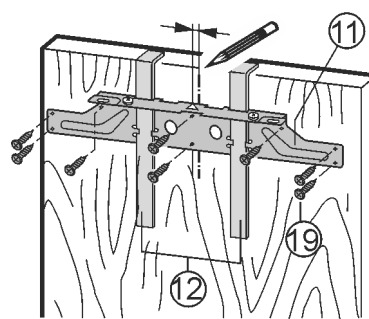

Fig. 19
- ▶ Align the crosspiece Fig. 19 (11) to the middle of the door.
- ▶ Left strip: Move the crosspiece Fig. 19 (11) 1/4 (6 mm) to the left.
- ▶ Right strip: Move the crosspiece Fig. 19 (11) 1/4 (6 mm) to the right.